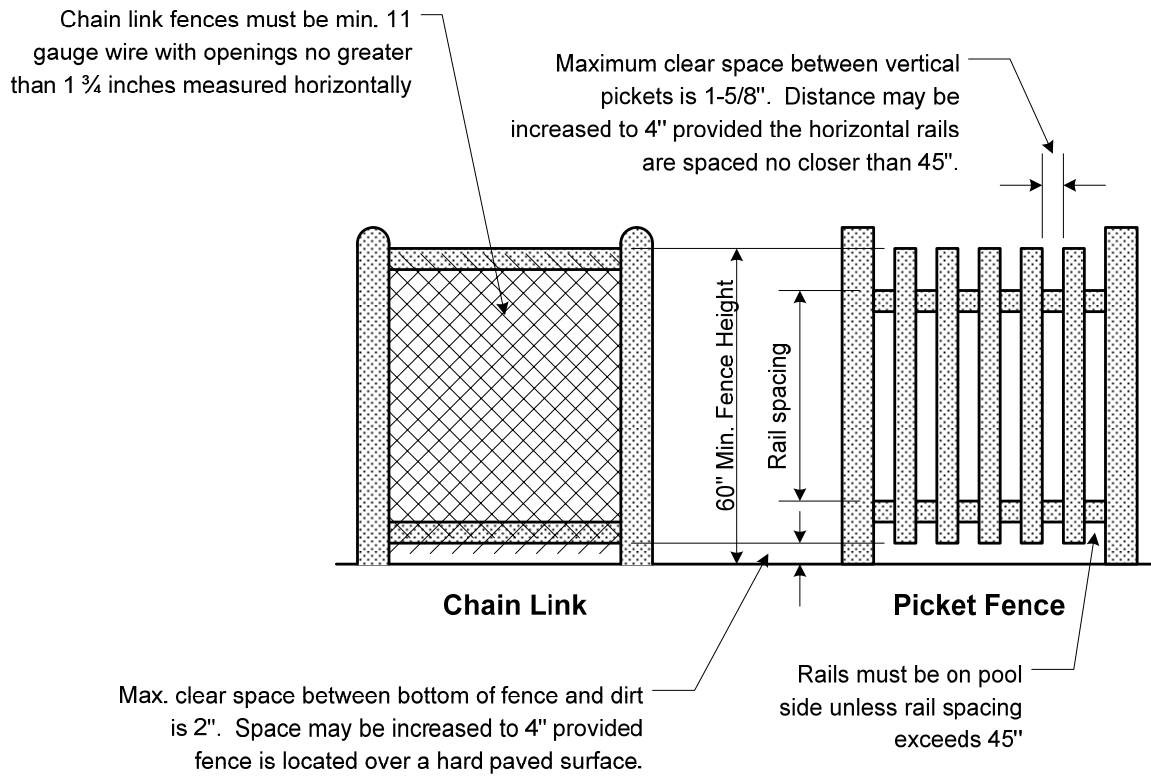

Figure 1
- Fence construction: All fences shall be at least 60 inches high and constructed to keep small children from climbing under, over, or through it. The standards shown in Figure 1 shall apply. For other standards please refer to Appendix Chapter 4 of the California Building Code.